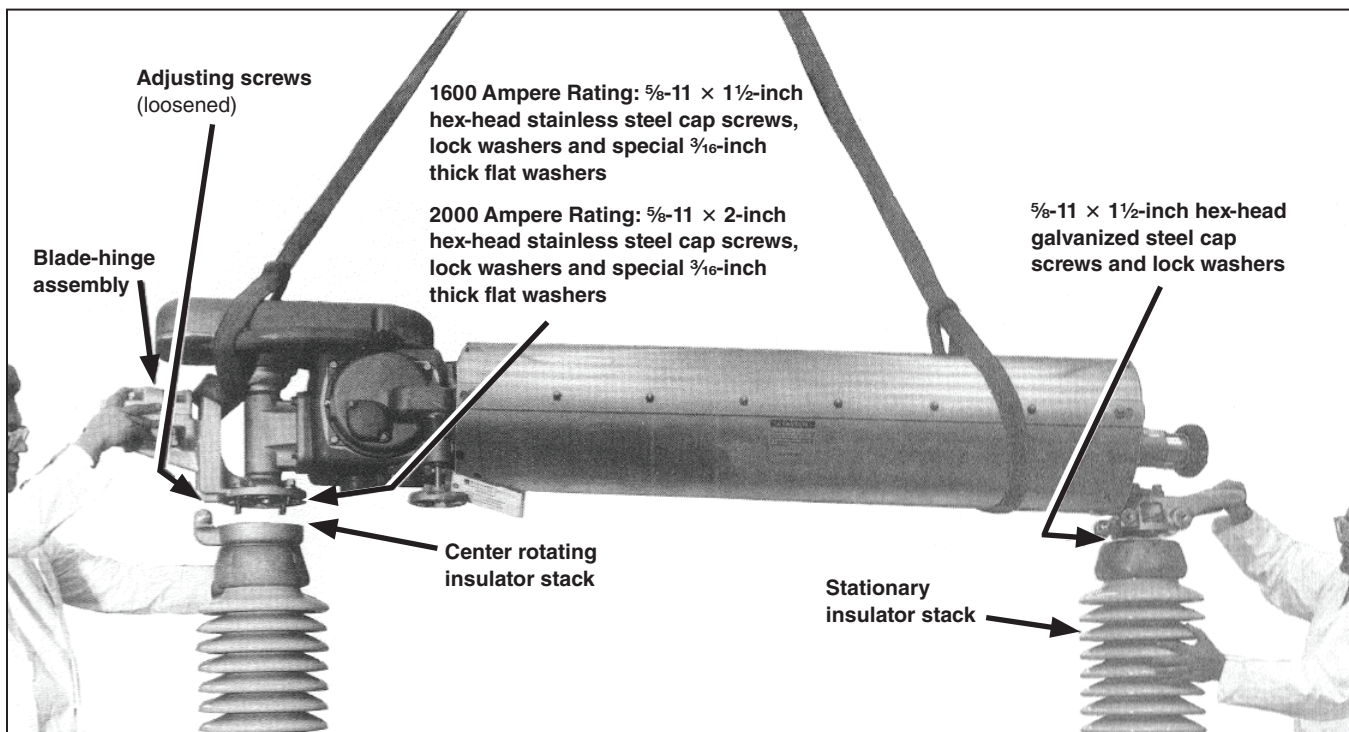

Figure 12. Lifting the brain-and-interrupter assembly into place on the insulator stacks.
STEP 13. Mount the brain-and-interrupter assembly with the same handling care cautioned for its removal. See Figure 12. Be sure to place the brain-and-interrupter assembly on the same pole-unit from which it was removed. The cap screws at the terminal end of the brain-and-interrupter assembly should be torqued to final tightness; the stainless steel cap screws in the slotted holes of the blade-hinge assembly
should be left loose enough for adjustment. See Figure 12 for hardware sizes.
Extreme care should be exercised to prevent damage to the interrupter target, gas-pressure indicator, and pressure-relief device with the lifting sling or fall lines, and to prevent their contact with other objects during lifting. See Figure 12.